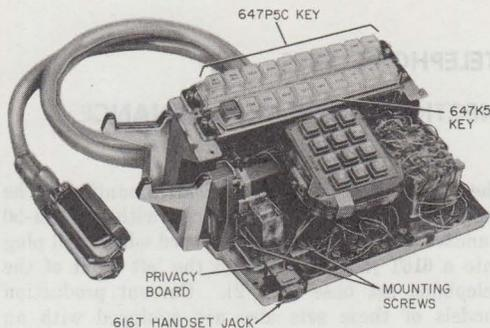

Fig. 2—2833BM Telephone Set Base
they have been adapted for wall mounting. The modular sets will all be equipped with a G15A-50 handset and H4DU-50 handset cord which will plug into a 616T jack mounted on the left front of the telephone set base (Fig. 2). Current production models of these sets also are equipped with an improved line switch and an automatic button restoral (ABR) feature. Some early production BM and CM sets were not so equipped.
**2.02** The 833B (MD), or 833BM, 833DM and 2833B (MD), or 2833BM, 2833DM telephone sets are equipped with a 647K5 key in the lower key position consisting of a hold button, six line buttons, and three intercom buttons. A 647P5C key is located in the upper key position consisting of a RECALL button, a Privacy Release (PRIV RLS) button, and eight line buttons. The privacy circuit board is factory installed and wired (Fig. 2).
(1) Mount privacy circuit board on the two standoffs located at the left front of the telephone set base (Fig. 2) using mounting screws furnished with the telephone set.
(2) Refer to Table C for connections.
(3) To test privacy circuit refer to 3.06.